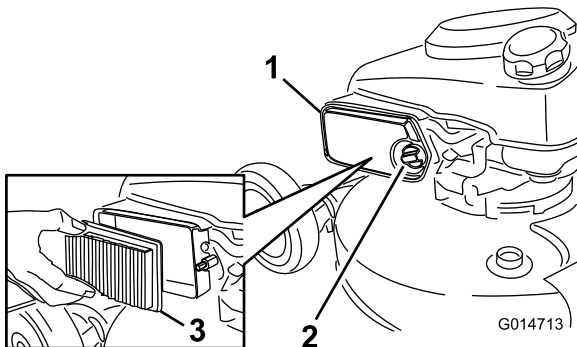

Figure 16
- Press the button on the air-cleaner cover (Figure 16) and open the cover.